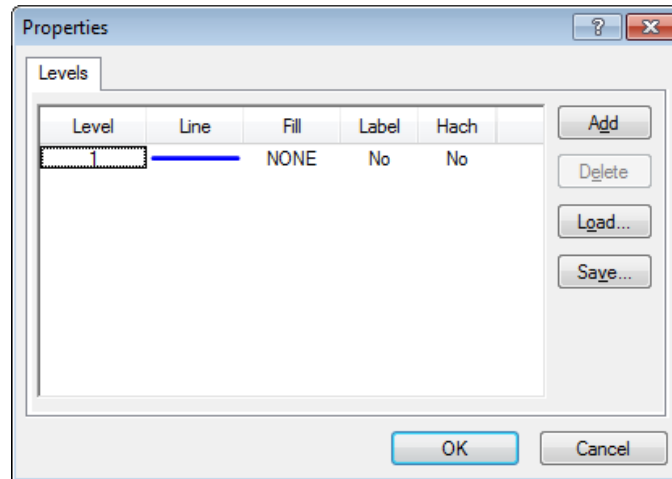

Figure 7.20 - Example 2: the Levels **Properties** window in the Surfer **Properties Manager**
- Step 4** In the **Levels** tab change the **Level Method** from **Simple** to **Advanced** and select **Edit Levels...** In the **Properties** window use the **Delete** button to delete all but one level. By double-clicking on each field in turn, set the **Level** of the contour to 1, choose an appropriate **Line** thickness and colour and set the contour **Fill** colour to None (**Figure 7.20**).